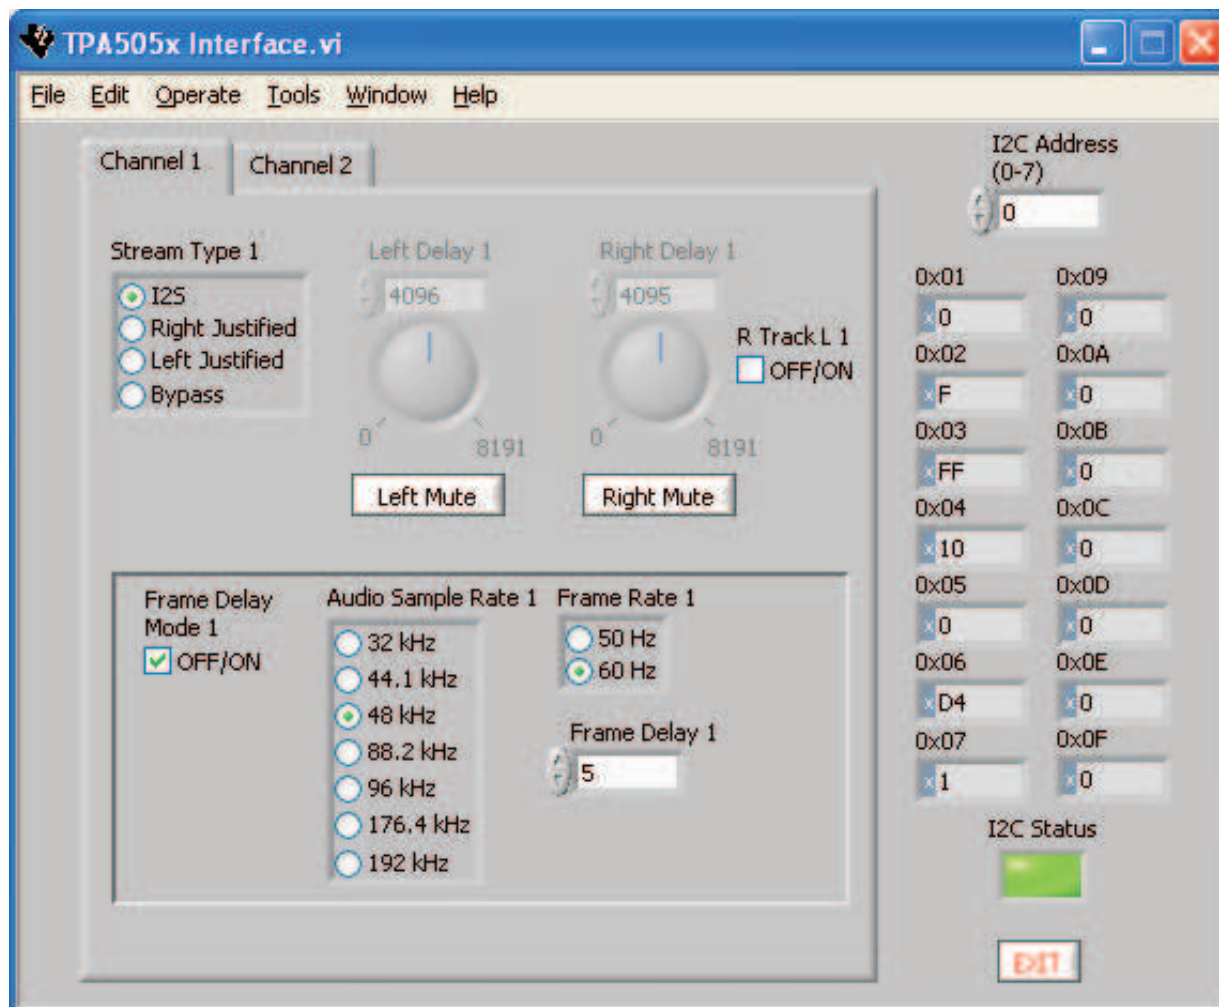

Figure 2. TPA5050 in I²S Mode With Frame Delay
5. The delay also can be controlled with the *Frame Delay* option. Simply click on the *Frame Delay Mode 1 ON/OFF* box, and the frame delay options become available. Frame delay mode affects both left and right channels simultaneously (see Figure 2).